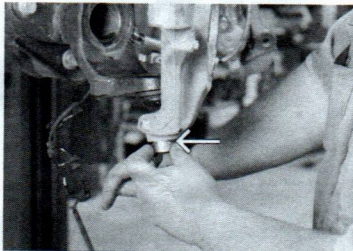

Figure 18. Reinstalled Knuckle with Lower Ball Joint Castle Nut Lightly Tightened
21. Install the steering knuckles. Place the provided washer on the lower ball joint stud and tighten the lower ball joint castle nut slightly (no more than 15 lb-ft). See **Figure 18**.